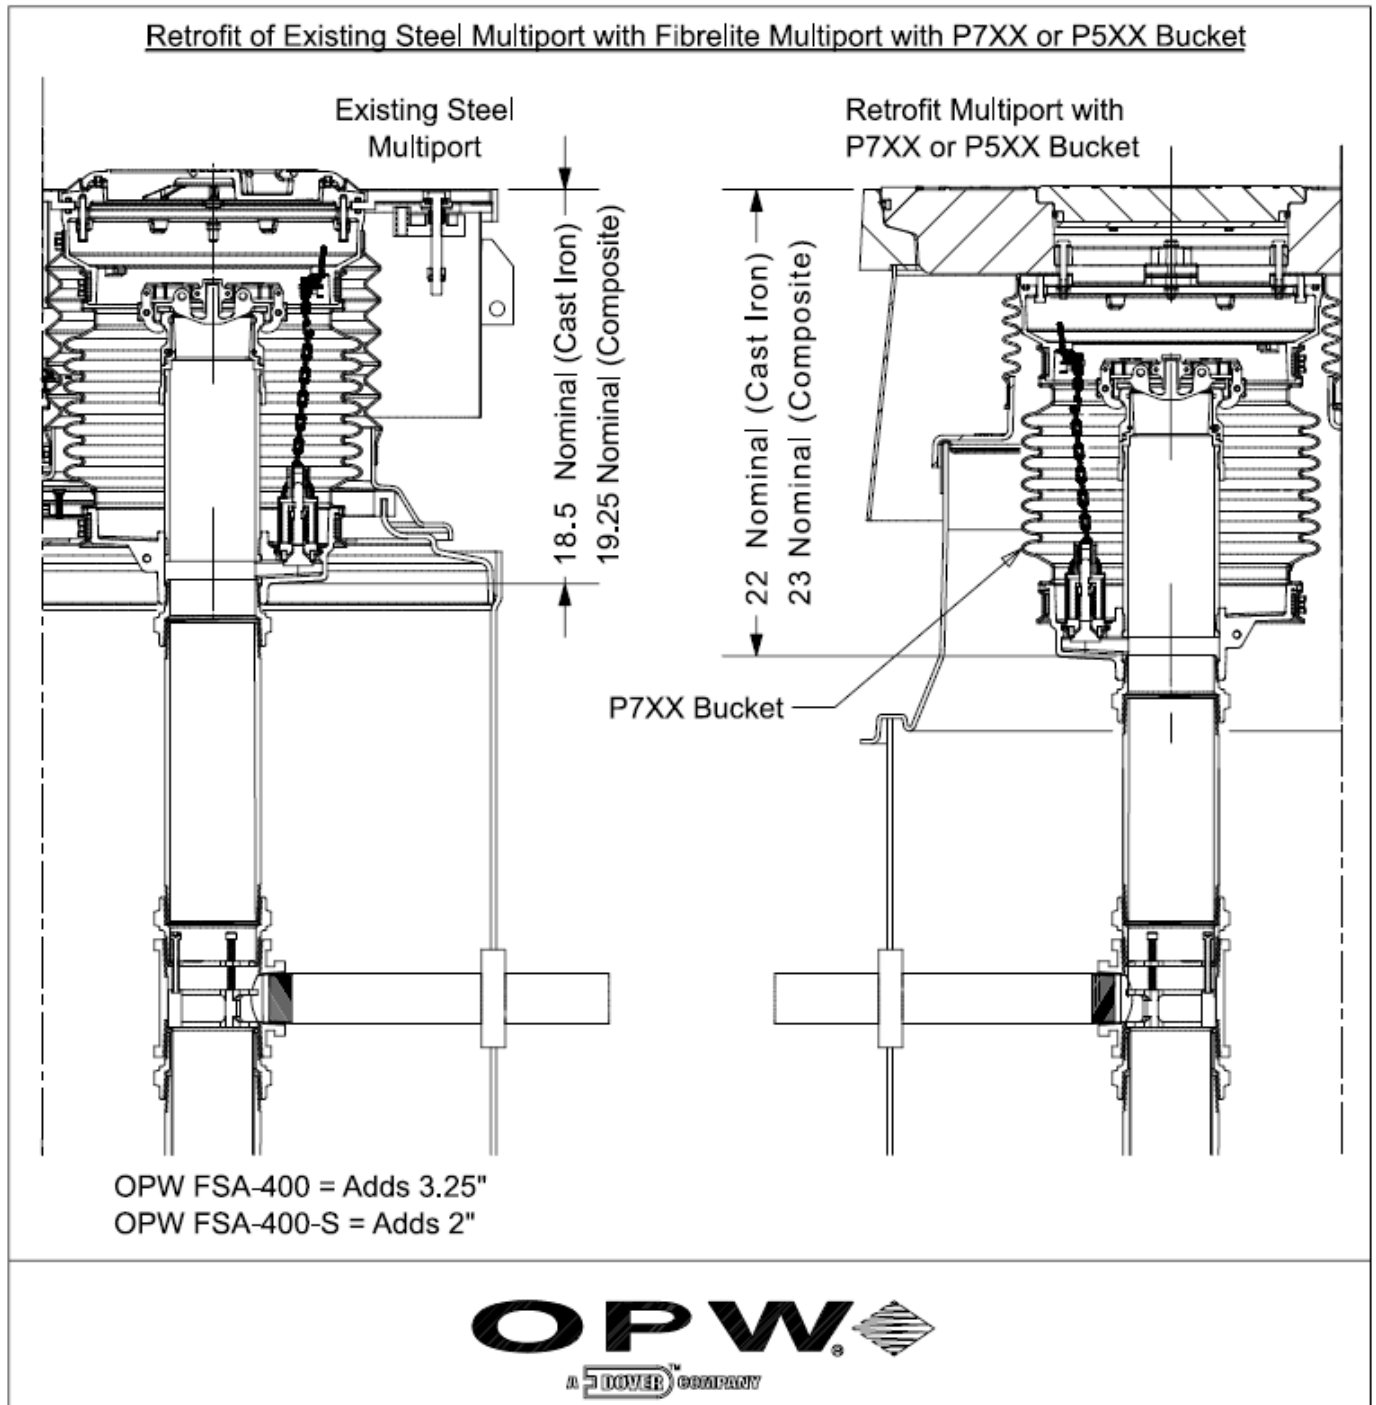

Figure 53
**Note:** For use of P7XX or P5XX buckets with adapter ring see Figure 53 in Appendix A on page 26 for bucket dimensions.